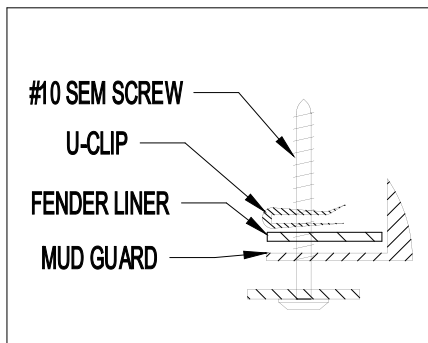

Figure 2
4. Using the mud guard as a template, mark and drill an 1/8" hole and install #10 SEM screw at location D (Passengers side only) , thru the mud guard, fender liner and into a u-clip on the back side of the liner. The u-clip is used as a nut, DO NOT clip over the liner (see figure 2).